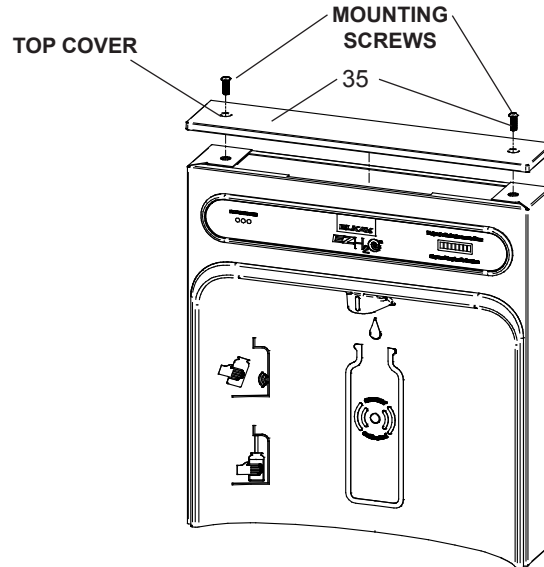

Fig. 8
- 1) Remove two (2) mounting screws with 5/32" Allen wrench holding top cover to Bottle Filler (See Fig. 8). Remove top cover. Note do not discard mounting screws, they will be needed to reinstall top cover.
- 9) Once Bottle Filler is installed on wall plate tabs, waterline and power cord are installed properly, push top of Bottle Filler toward wall and line up top cover two (2) holes.
- 10) Reinstall Top Cover on Bottle Filler (See Fig. 8) with two mounting screws from step 1 above. Caution, do not over tighten screws.